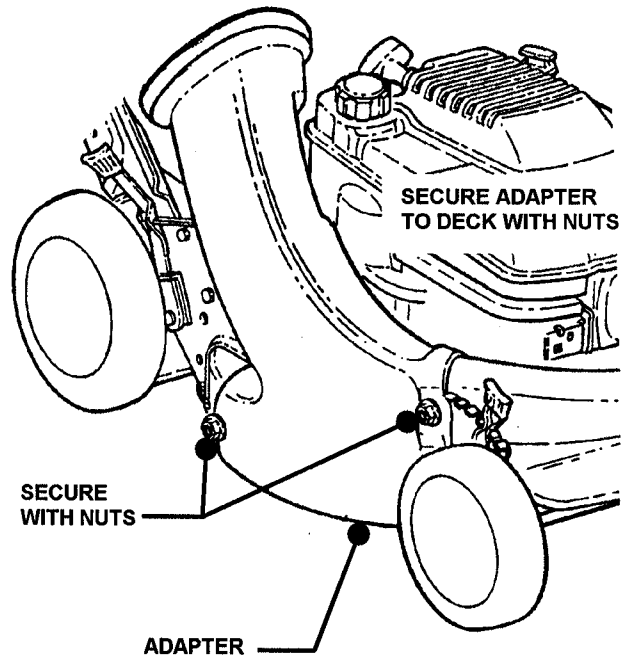

FIGURE 3
STEP 3: Install the grass bag adapter and secure to the side with the two nuts previously removed from the machine. Slot in front edge of adapter must be under nut located on top of deck. See Figure 3.